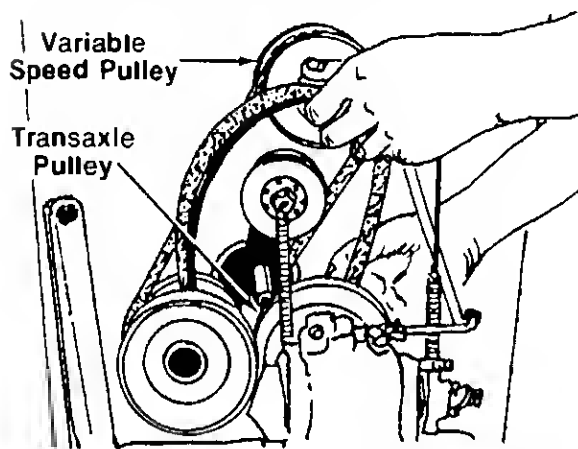

FIGURE 24.
8. Slip the "V"-belt off the variable speed pulley and transaxle pulley. See figure 24.